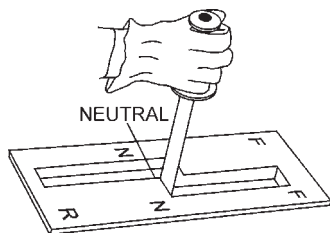

Figure 18. Shift Lever
4. Make sure that the roller's shift lever (Figure 18) is placed in the **neutral position**.